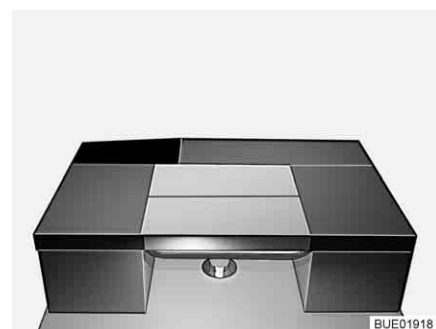

Fig. 145 After conversion
- Place the back cushion of the bench horizontally onto the table (see Fig. 145).